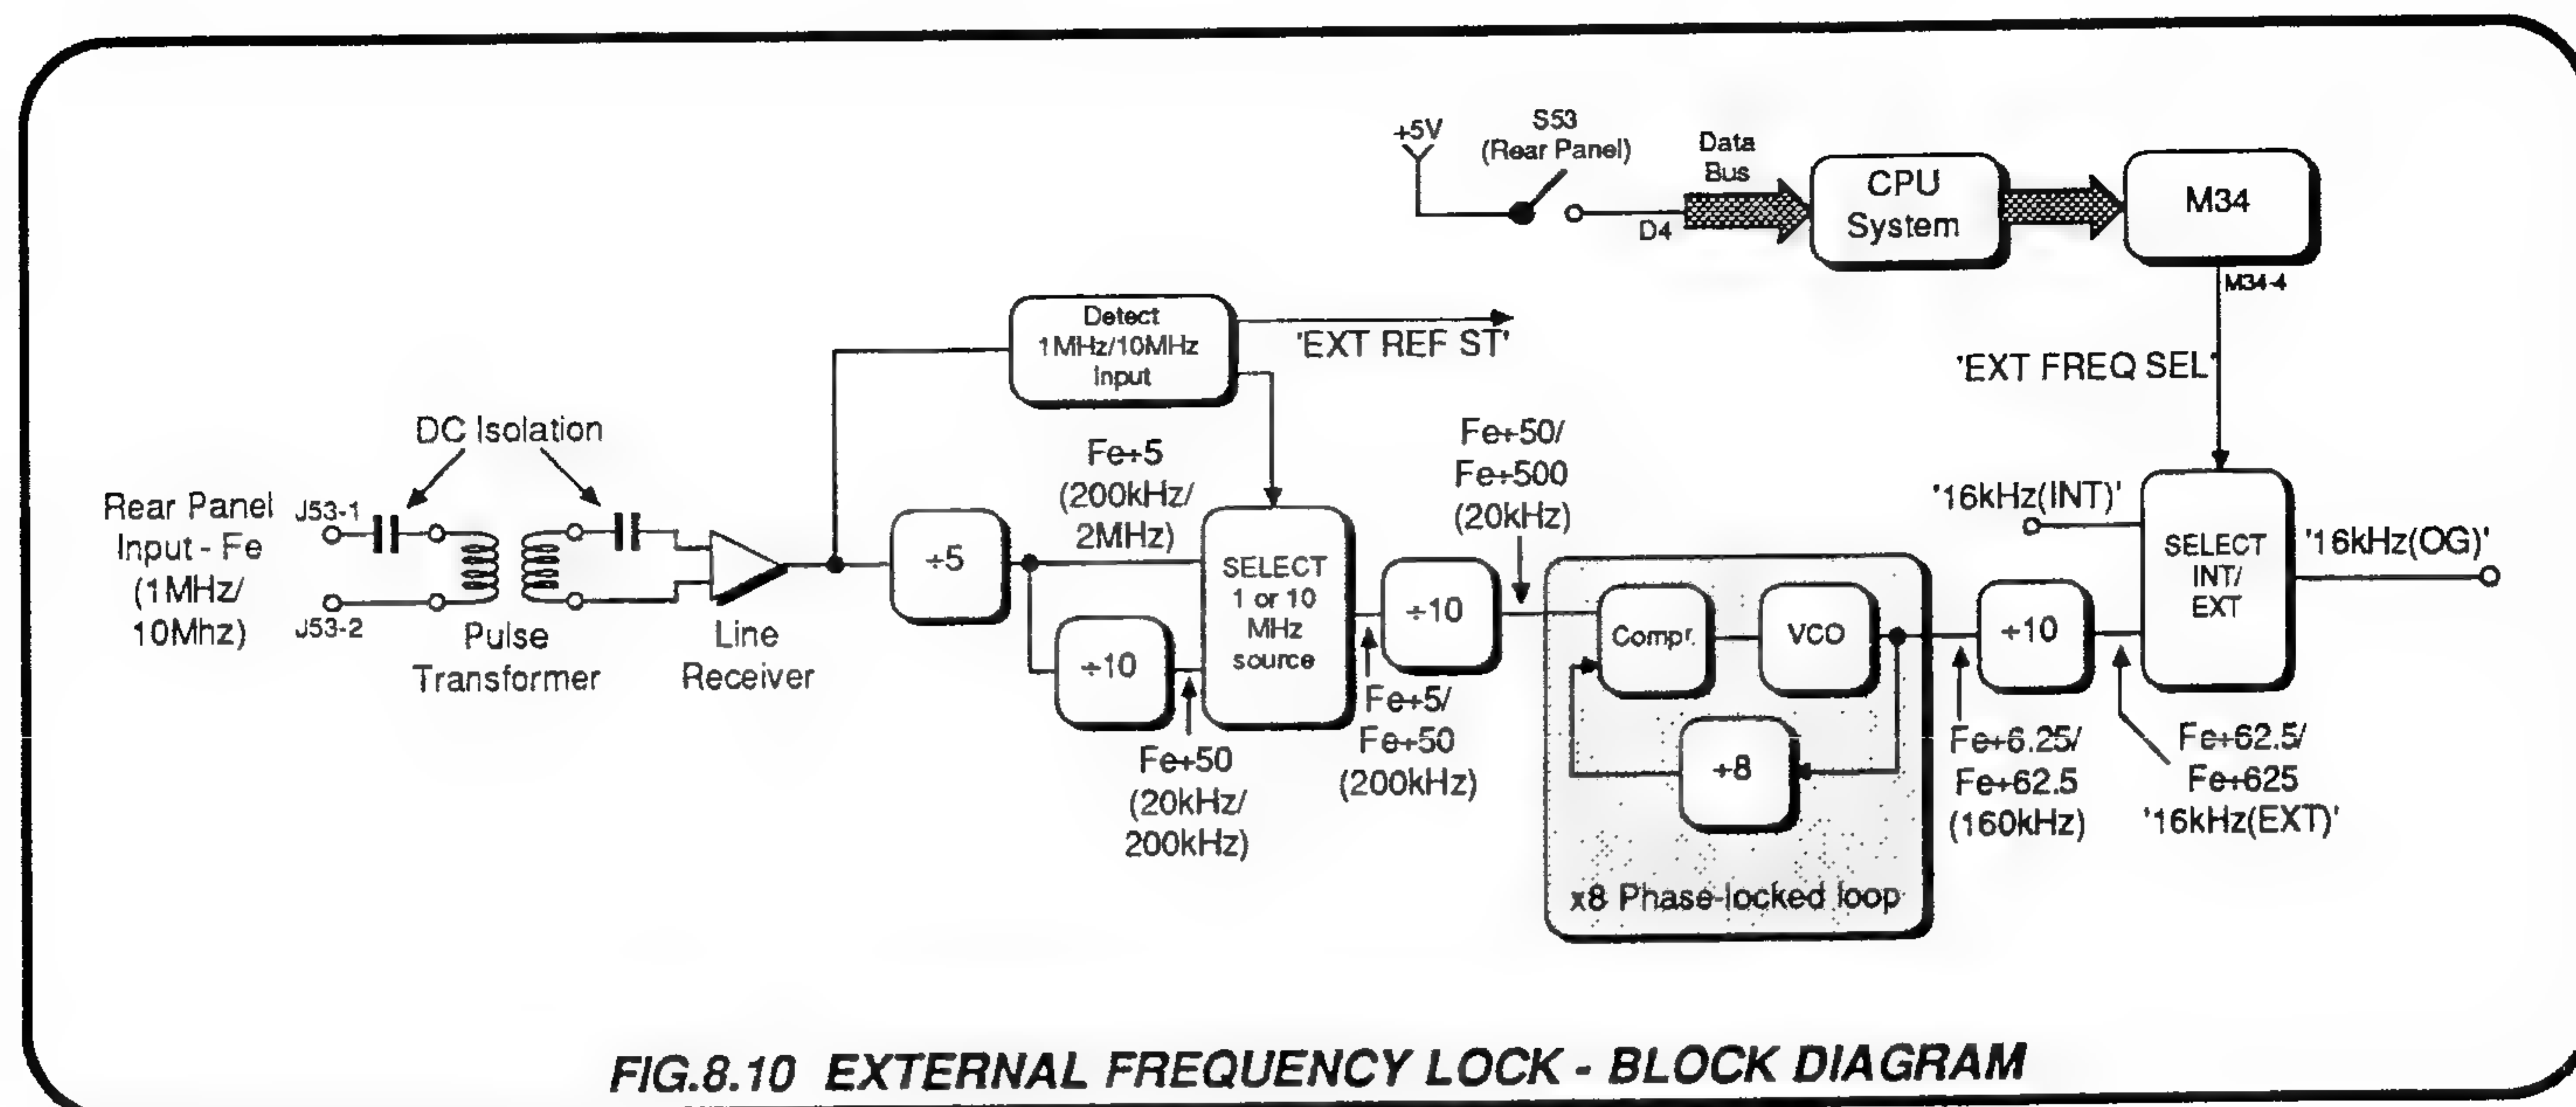

FIG.8.10 EXTERNAL FREQUENCY LOCK - BLOCK DIAGRAM
The output sinewave frequency is synthesized in the Sine-Source assembly, normally synchronized to an internally-generated reference frequency of 16kHz. To lock the output to an external reference, it is necessary only to divide the frequency of the reference down to 16kHz and use this instead of the internal reference. The circuitry described in this sub-section is shown in block form in Fig. 8.10 and carries out the following functions:
- Divides the input frequency 'Fe' by 5 and then by 10 (Fig. 8.10).